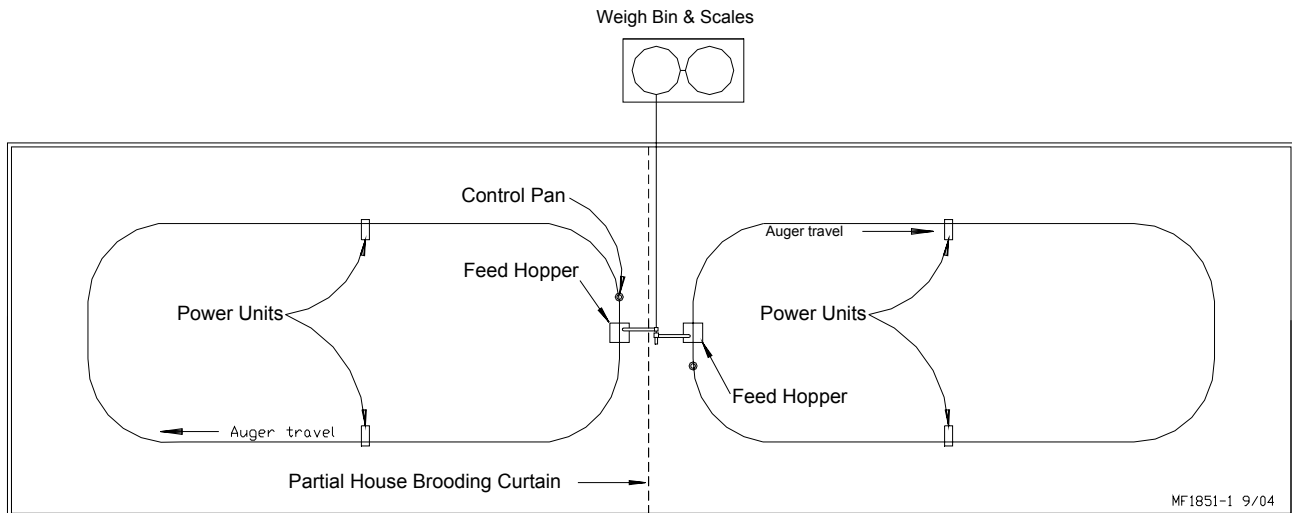

Figure 1. Planning the System
Note: For half house brooding applications, it is recommended to use 2 feeder loops as shown in Figure 1. This allows one feeder loop to be used during brooding and both for grow-out.
The diagram in **Figure 1**, shows a house with two CPF feeder loops. The line lengths specified for determining power unit placement refer to the distance between the elbows. However, the total system length = line length X 2, plus the elbows (including the tubes between the elbows).
See Figure 1.
2. Assemble the 150 lb. hopper halves and brace as shown in **Figure 1**, using #14 x 5/8" screws (supplied in hardware package).